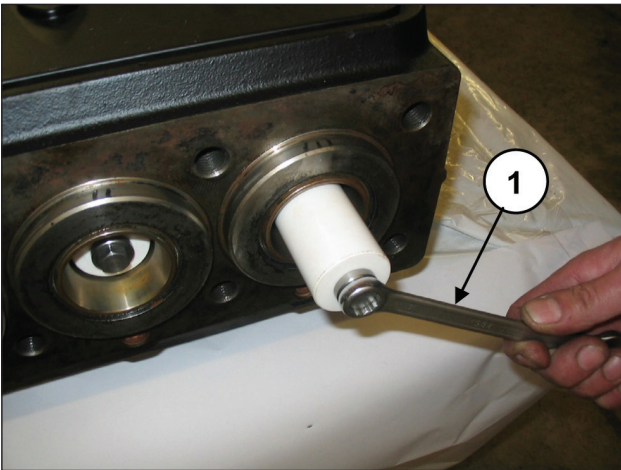

Fig. 121
Disassemble the pistons by unscrewing the fixing screws (pos. ①, Fig. 121).